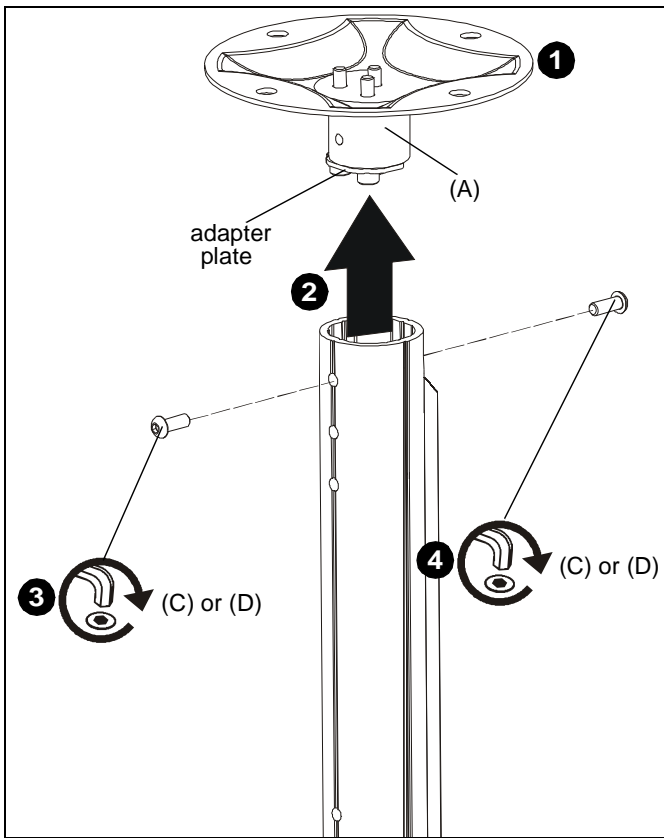

Figure 1
2. Making sure holes on KITE Series column (E) and CPA115 mount (A) are aligned, install column onto CPA plate adapter. (See Figure 1)
3. Install either one M6x16 button head screw (C) or security screw (D) into hole on side of CPA pipe where the adapter plate on CPA adapter is located. (See Figure 1)
4. On the opposite side of CPA pipe, use the other M6x16 button head screw (C) or security screw (D) to secure RSE (A) to CPA column. (See Figure 1)